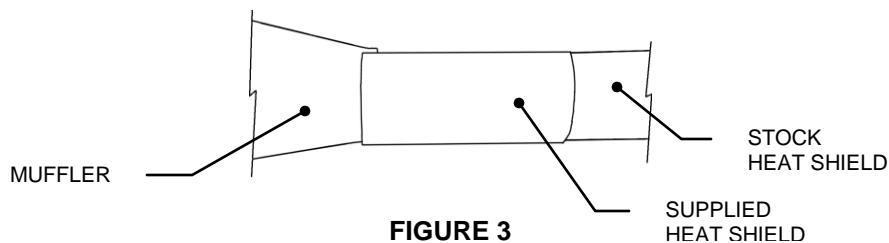

FIGURE 3
12. Snap the lower heat shield over front muffler body and head pipe stock heat shield making sure the short straight of the heat shield is to the front and align the top edge of both heat shields. (See figure 3). Tighten clamp.
13. Snap upper heat shield over muffler/stock heat shield and align top edge of new heat shield with stock heat shield (see figure 3) Tighten hose clamp.